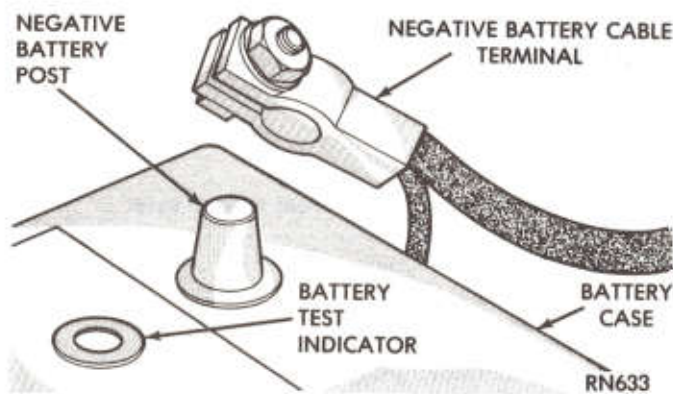

Fig. 2—Removing Negative Battery Cable
- (1) Before starting any tests make sure vehicle has a fully charged battery. Test and procedures on how to check for a fully charged battery are shown in "Battery" section of this manual.
- (2) Turn Off ignition switch.
- (3) Disconnect negative battery cable (Fig. 2).
- (4) Disconnect alternator output wire from alterna-